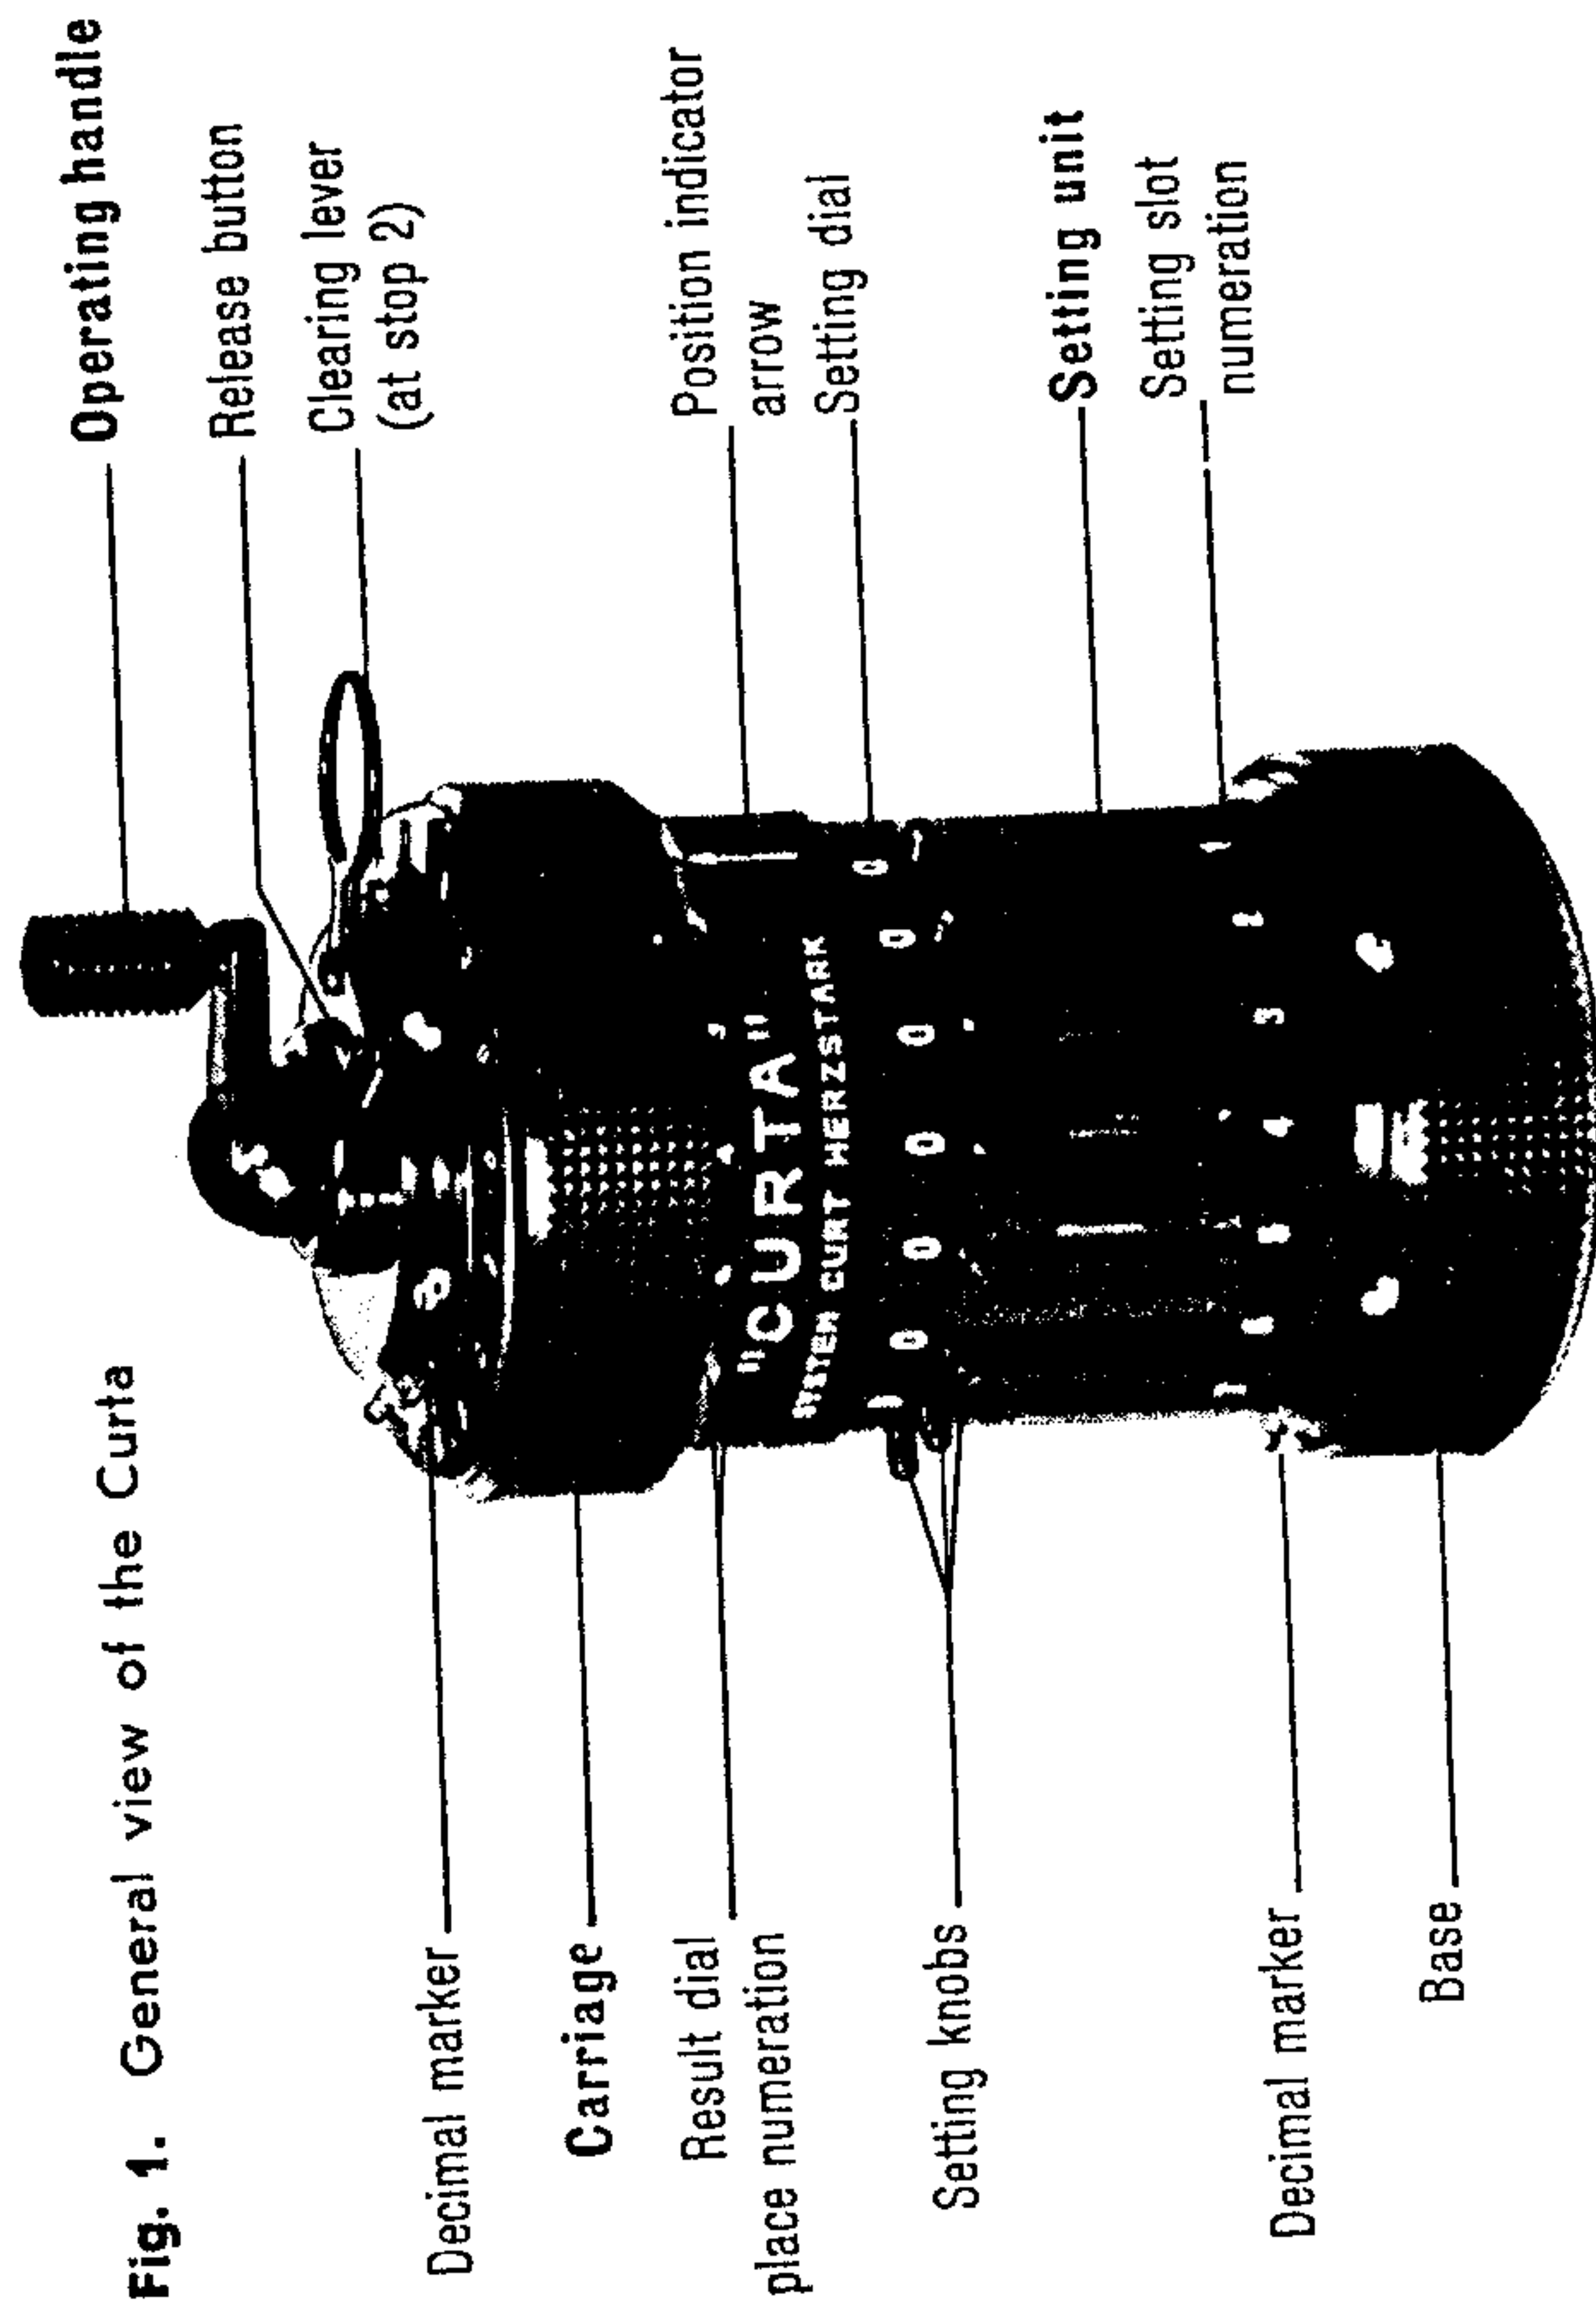
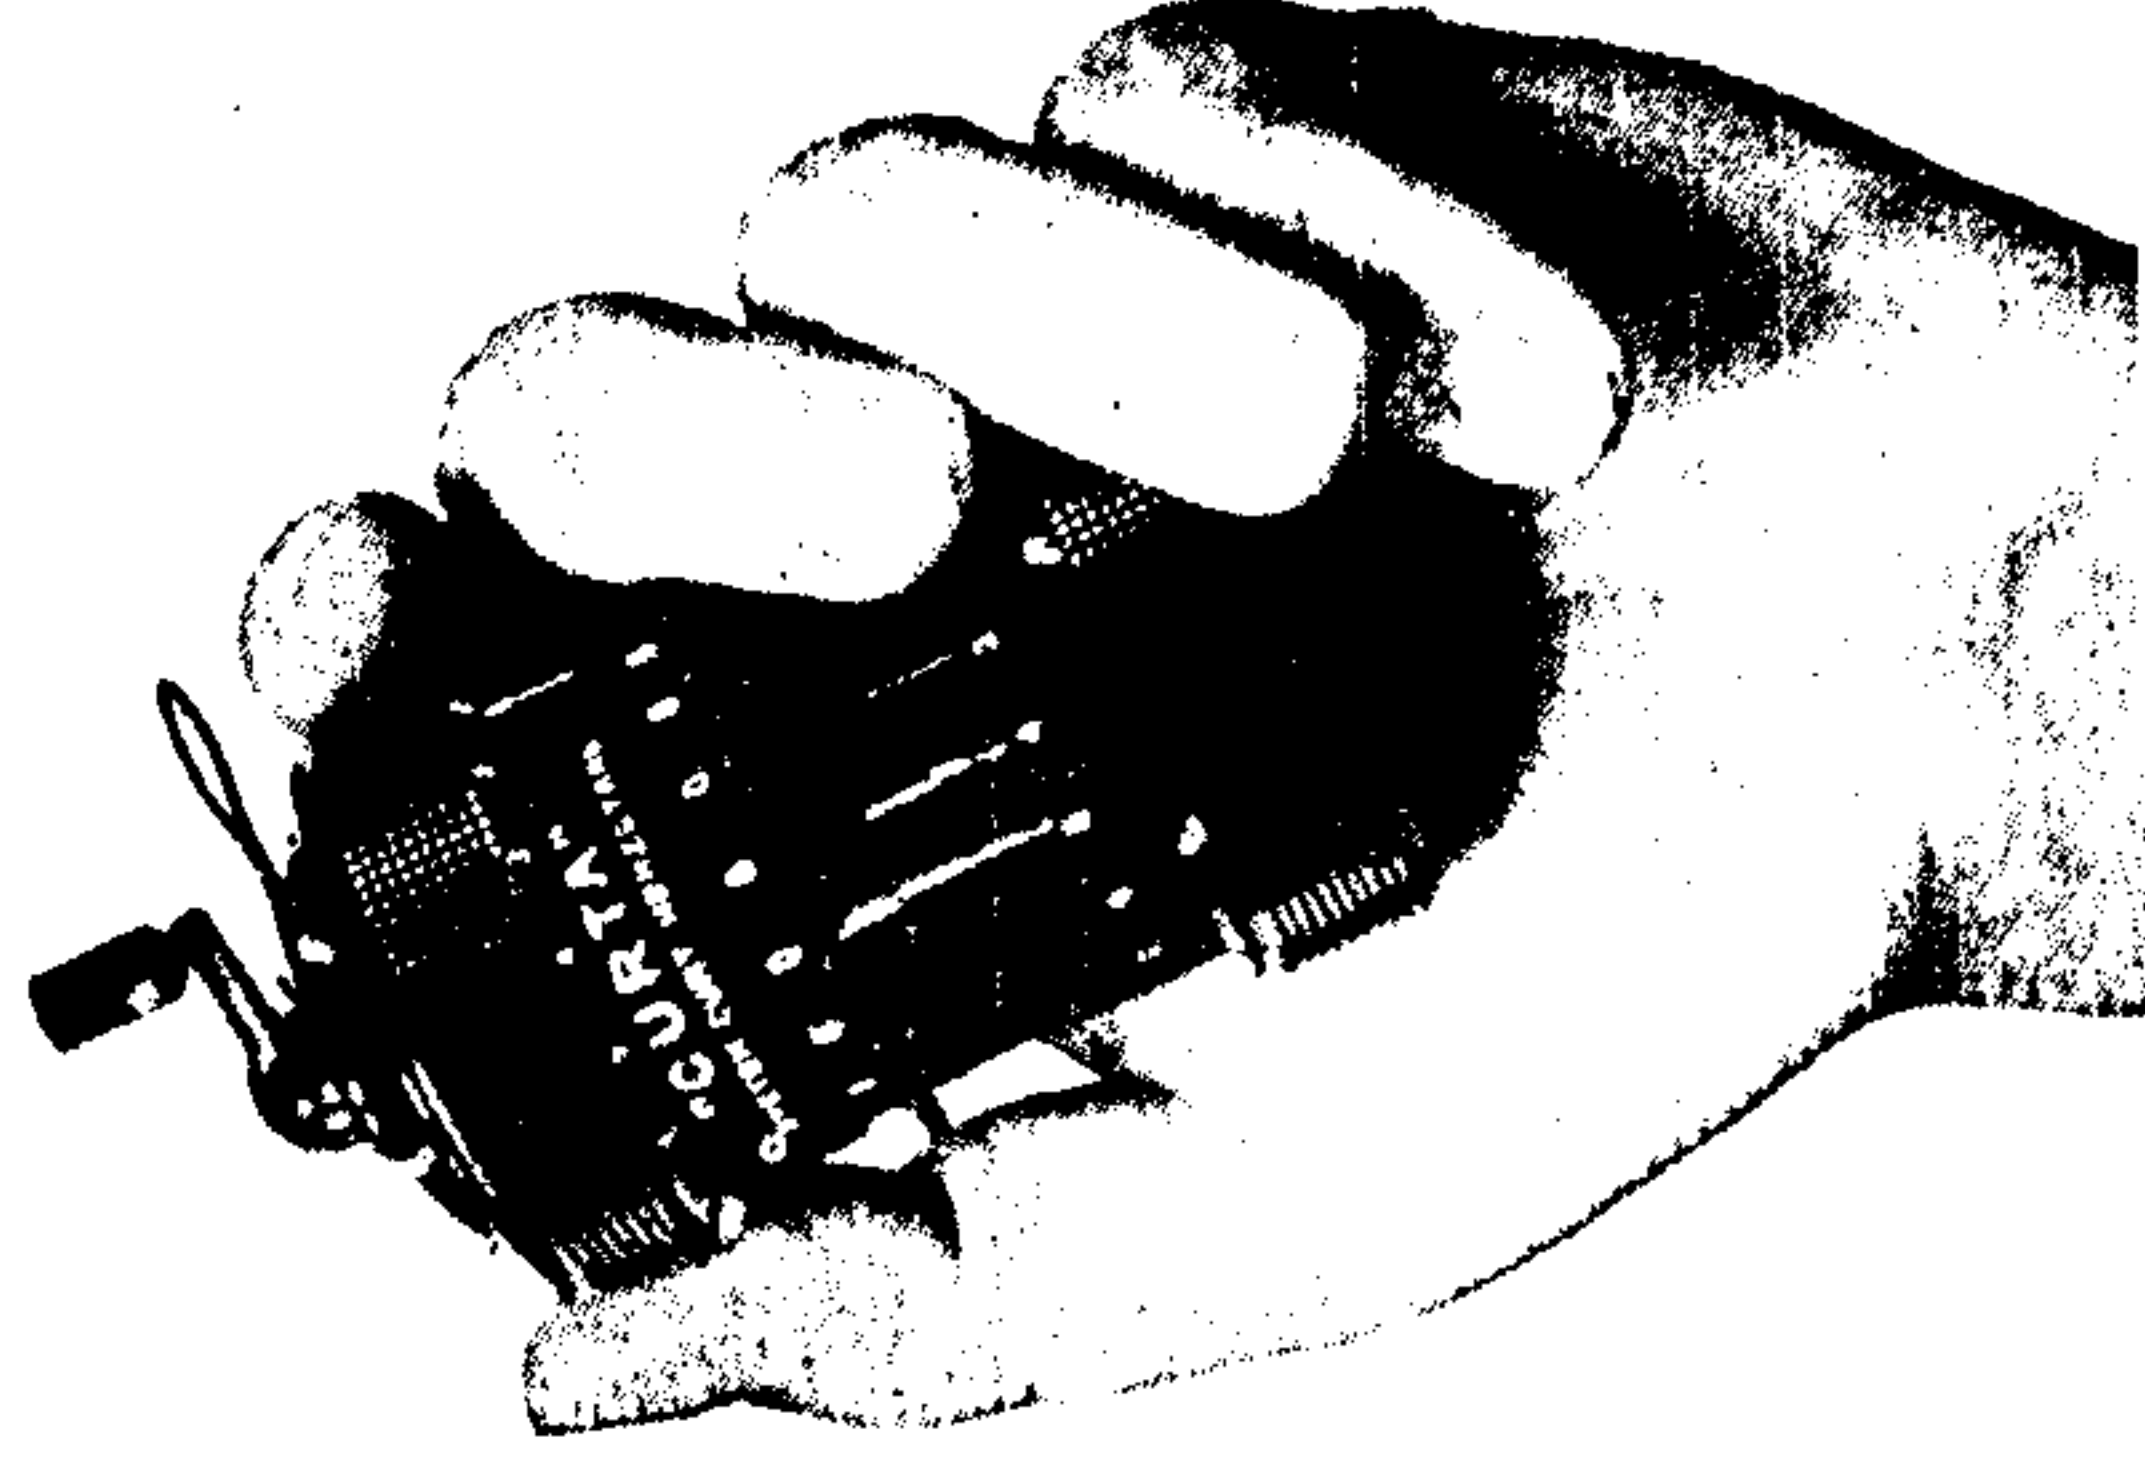
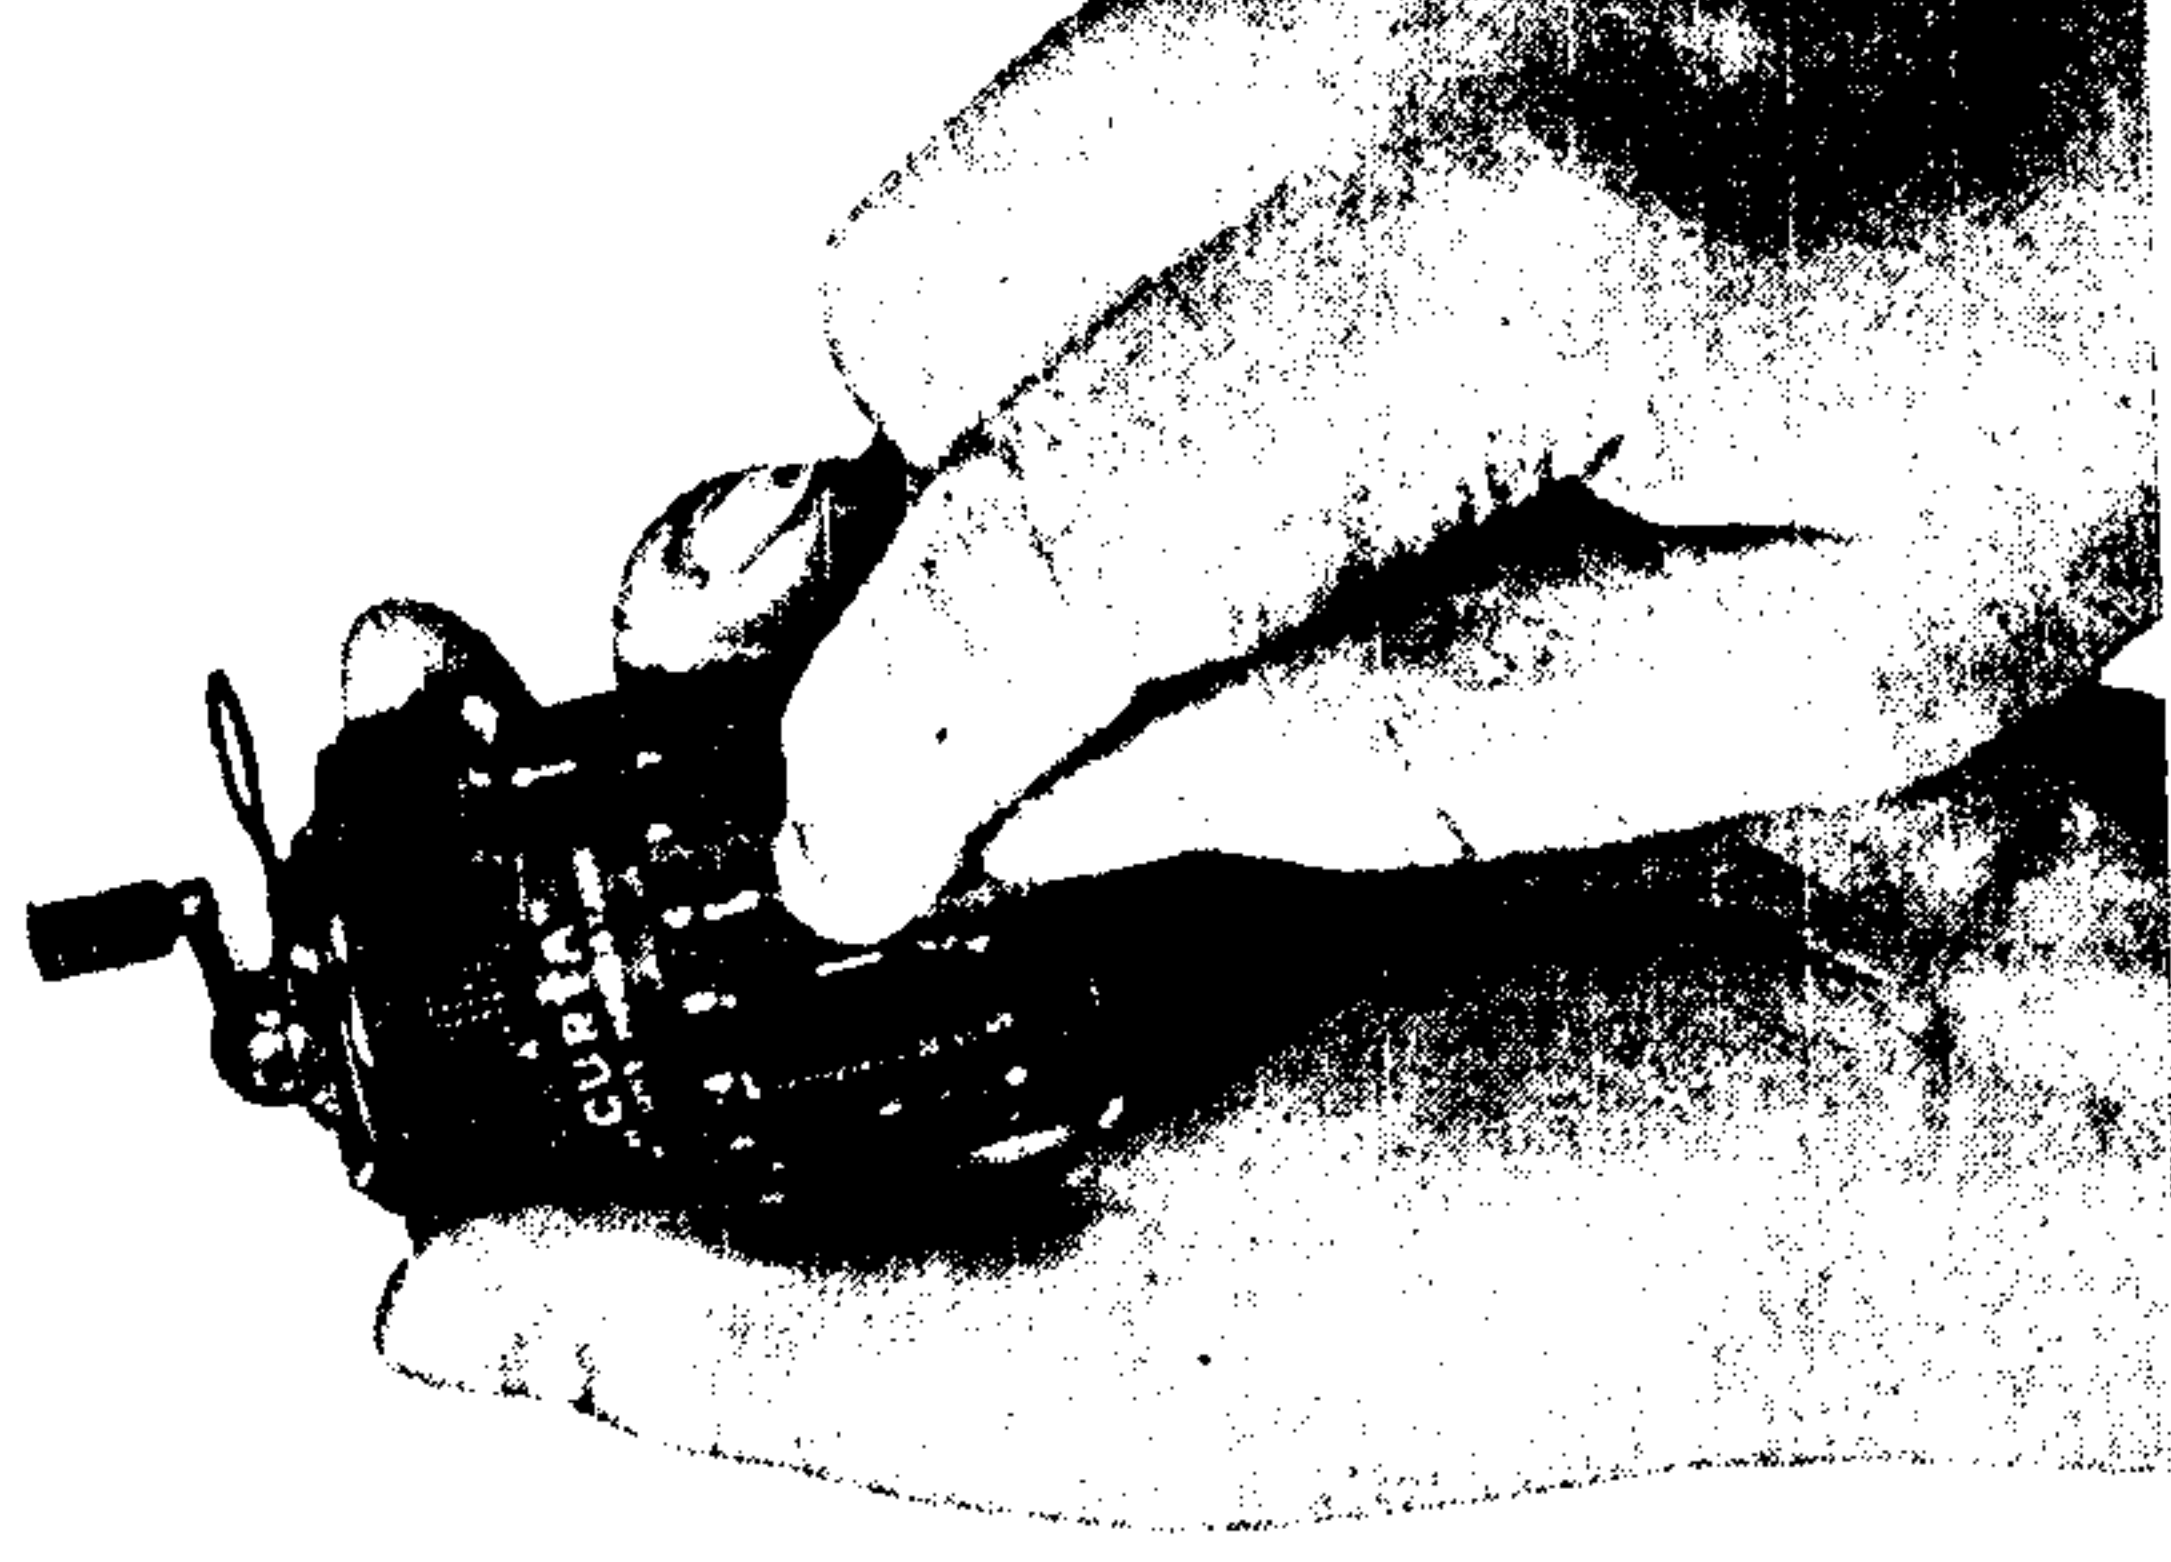
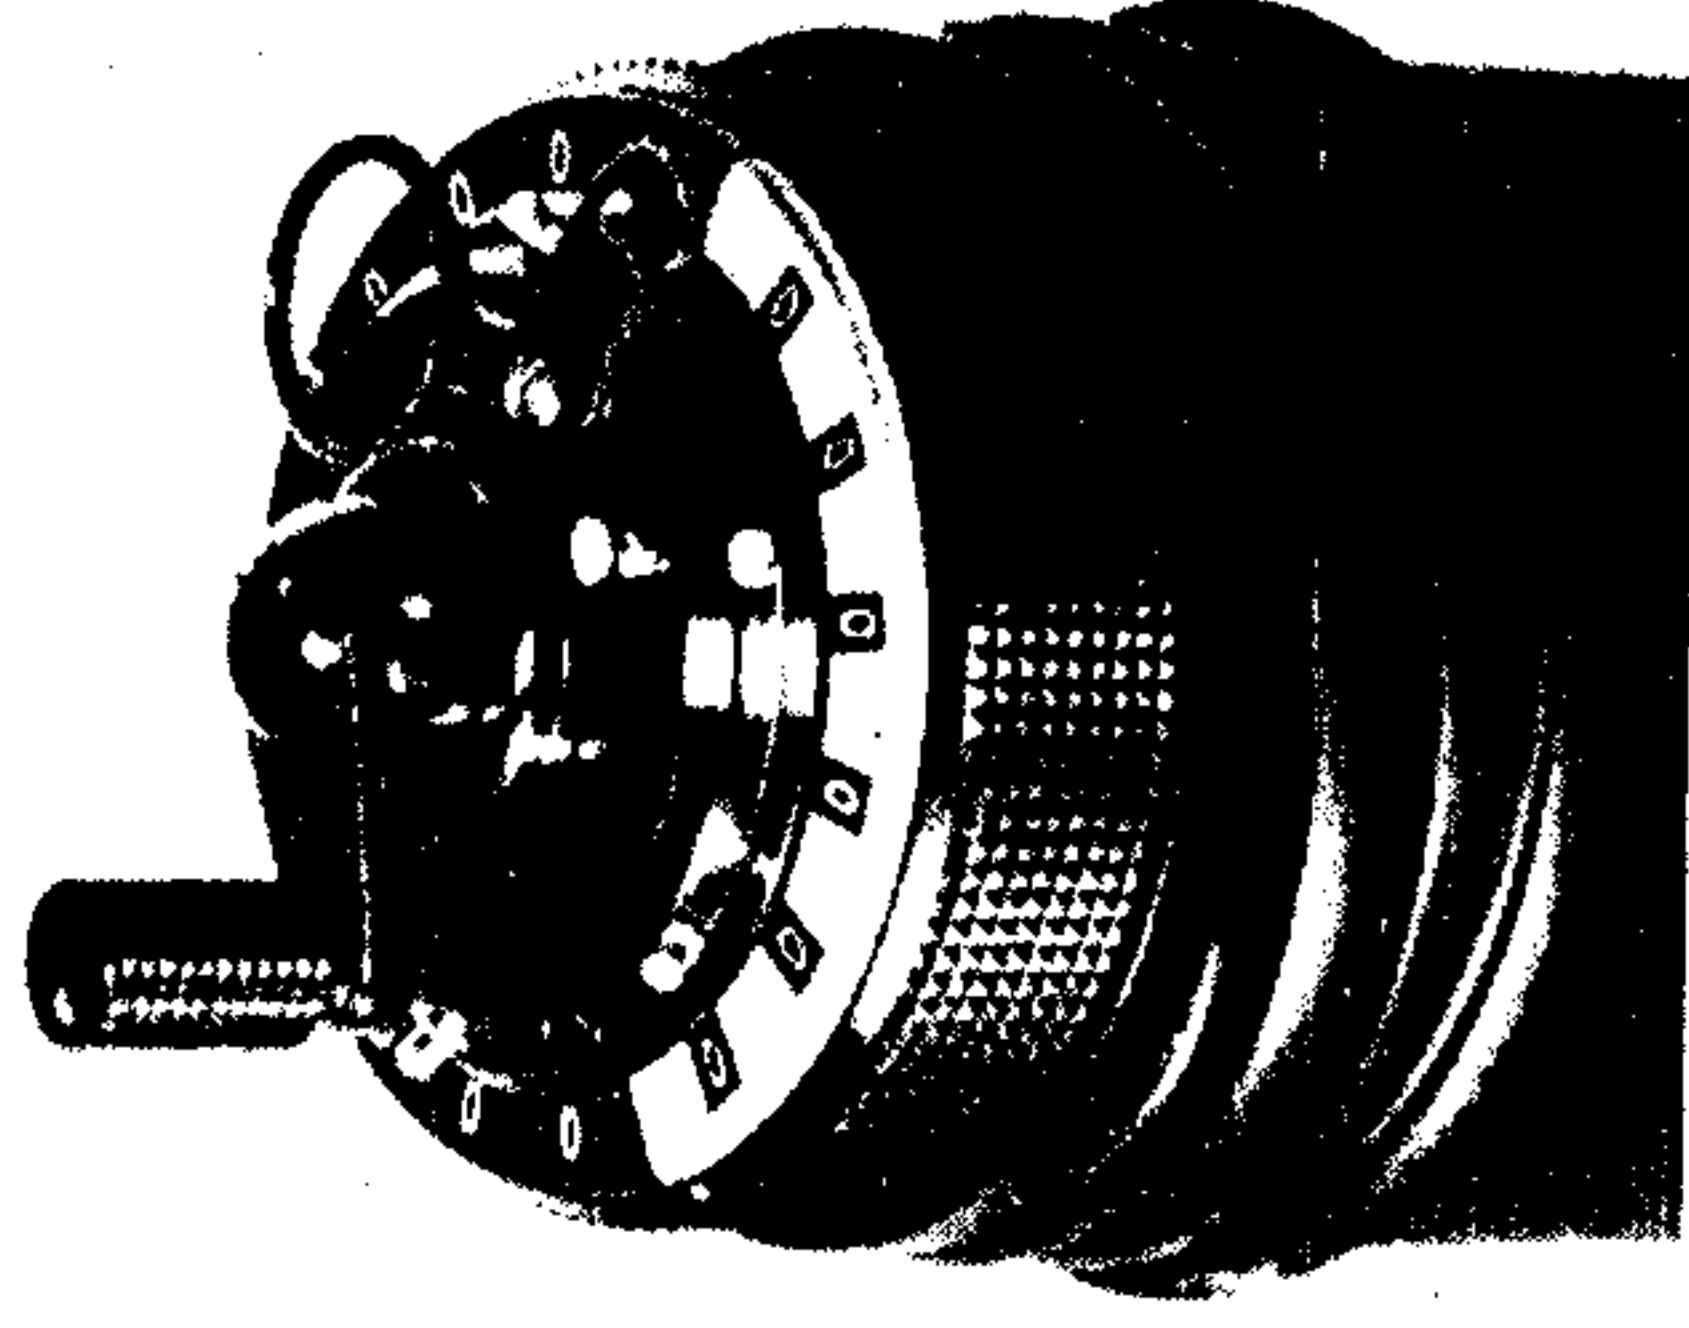

Fig. 1. General view of the Curta
Fig. 3. The machine as held in the left hand
Fig. 4. Operating the setting knobs
Fig. 7. Protective container open
Looking at the outside of the machine, you will distinguish at once three main elements (see Figs. 1 and 2).
To set a number, e. g. 13,977; take the machine in the left hand (see Fig. 3), and with the forefinger of the right hand (Fig. 4), pull the knobs 1 to 5 until the required figures appear, in this case 1, 3, 9, 7, 7, in the respective slots of the setting dial. (See Fig. 1.) The knobs are best held between the nail and the finger-tip.
The slots are numbered 1 to 8, starting from the right. 1 is the units column, 2 the tens column, 3 the hundreds, and so on (see Fig. 1). Underneath the slots, in the base ring, are three movable white buttons to mark the decimal point, thousands column, etc.
The 11-place result dial shows the totals, products or differences. The places are numbered 1 to 11 on the lower edge of the carriage (Fig. 1).
Five white decimal markers serving to mark decimal points for both the dials can be shifted in a slot (Fig. 1 and 2).
The handle being at its stop, the carriage may be raised, and turned about the axis of the machine, within an angle range of about  $100^\circ$  in which the carriage can be rested in any one of six positions. An indicator arrow engraved in white on the cylindrical main body (Fig. 1) marks these stop positions of the carriage relative to the columns. If the arrow points to the 1 of the result dial place numeration, the number set is transferred unaltered to the result dial. With the arrow at 2, the number is transferred 10 times; at 3, a hundred times, and so on. The turns are recorded in the revolution counter in corresponding places; the counter having six places, the carriage can be moved into six positions. Such changes of position are needed, for example, in multiplication with multipliers
Clearing the counter dials is done by means of the clearing lever, furnished with a ring. The lever, securely fixed during calculations (Fig. 1 and 2) can be released by pressing a button and folded round when the machine is to be placed in its container (Fig. 7). To clear, raise the
either one can be cleared independently, as there are distinct checks at each boundary between the light and dark dials. **After clearing, the lever must rest at the one or the other of these checks, otherwise you can neither lower the carriage again, nor turn the driving handle. This is another safeguard against unintentional errors in operation. (Compare Figs. 1 and 2.)**
4. Carriage at starting position, indicator arrow pointing on figure 1 of the result dial numeration.
2. The greatest number of decimal places is three, therefore set a decimal marker before figure 3 of the result dial place numeration, and one before the third setting slot.
- The sum is found on the result dial; 49,264,126,802. The number on the counter is 002003. The figure 3 shows the total number of terms added, and the 2 shows how many of them had more than eight digits.